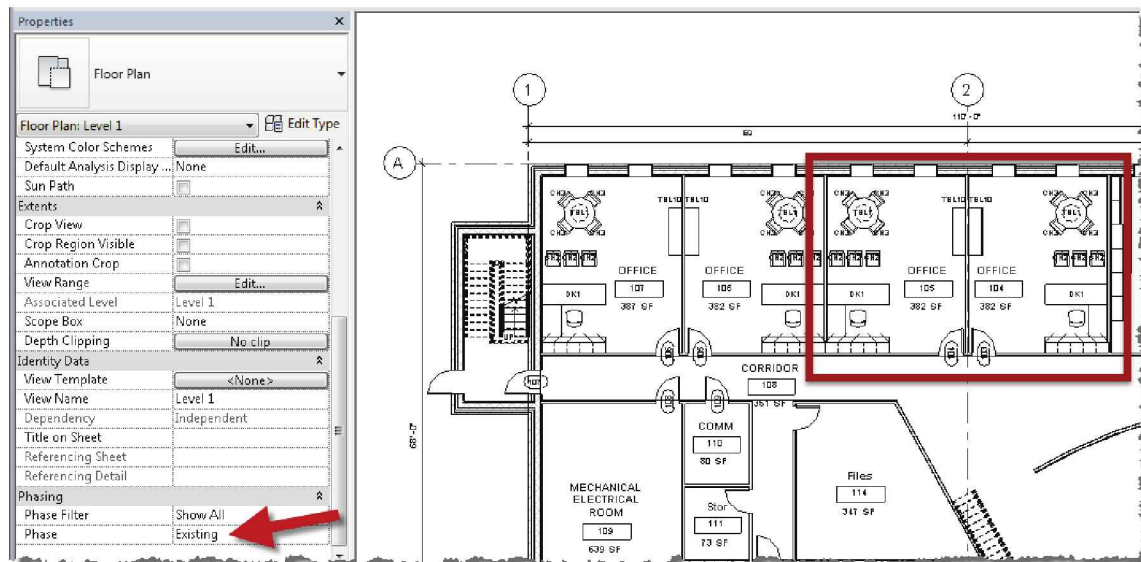

FIGURE 17-3.1 Level 1 floor plan with Phase set to existing
2. Ensure the **Level 1** floor plan view is open (Figure 17-3.1).